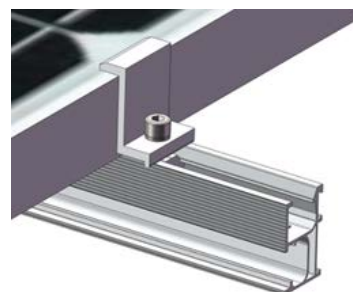

Figure 24
Step 1 Place the first PV Module on the Rail according to your plan, and fix it in place using the End Clamps. Then fasten lightly with the Allen Key as shown in Figure 24.